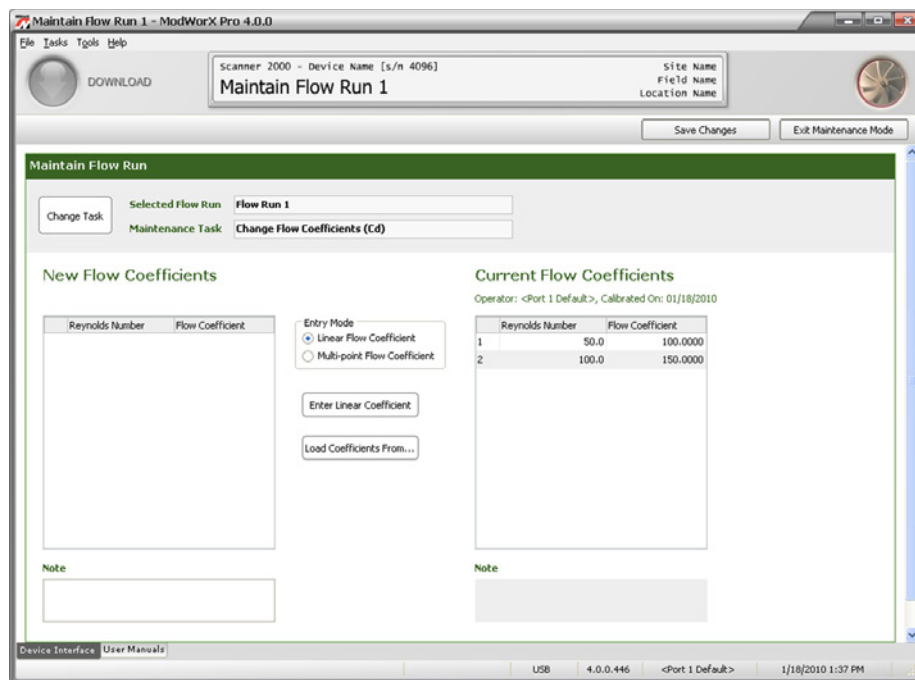

Figure 10.7
- b. Click **OK** to save the new selections and return to the Maintain Flow Run screen (Figure 10.7, page 144).